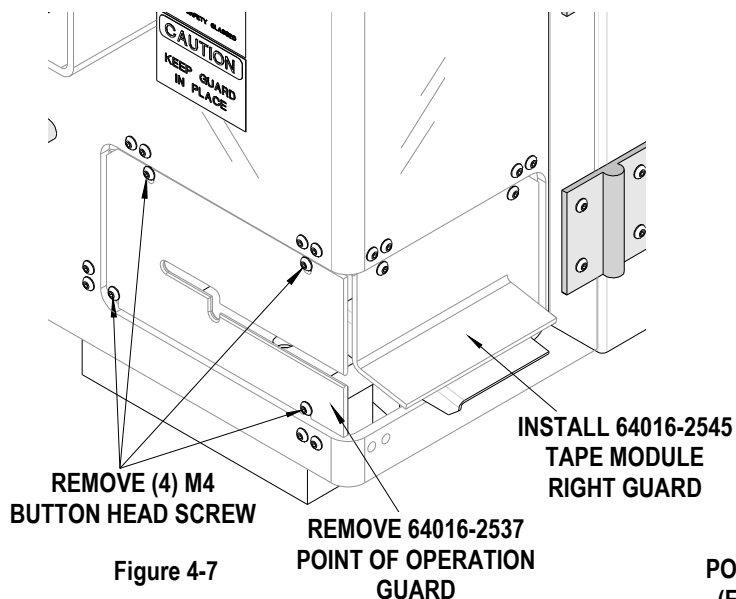

Figure 4-7
4. Install the 64016-2545 Tape Module right side guard as shown in figure 4-7; this guard is designed only for use with the Molex Tape Module, Mylar Tape Crimp Tool.
5. Install the (3) M4 x 8 button head screw.
6. Remove the (4) M4 button head screw and the point of operation guard. See Figure 4-7.